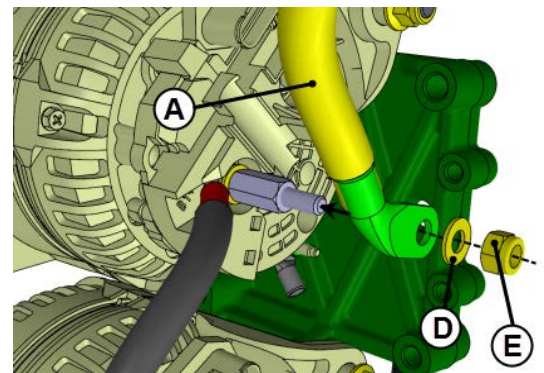

FIGURE 19
24. Reinstall the (+) power cable **A**. To do so, connect power cable **A** to the upper alternator **B1+** stud terminal. Refer to FIGURE 19.